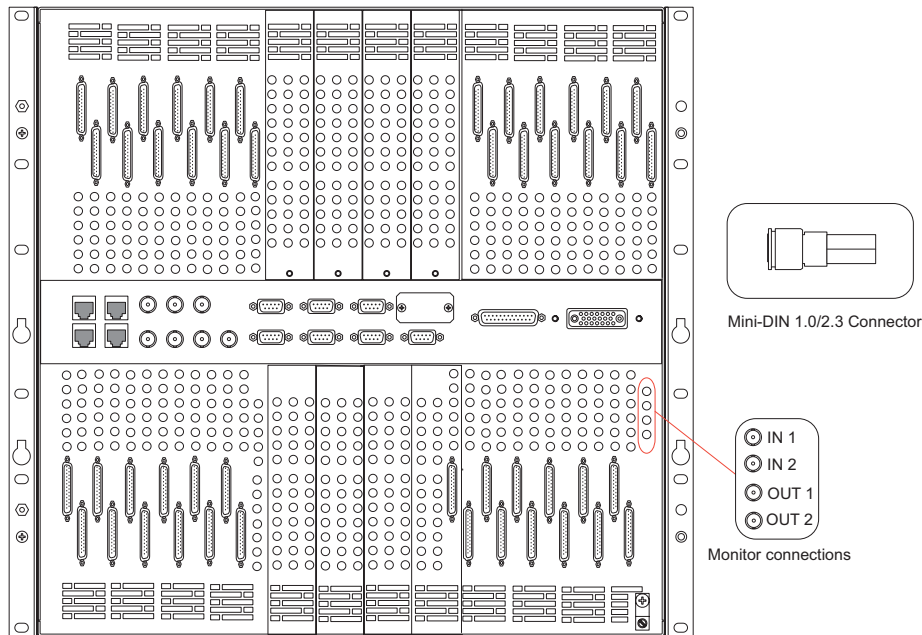

Figure 3-19. Monitor Connections and DIN 1.0/2.3 Connectors (Rear View) on the NV8288-Plus
- 1 Locate the monitor connections on the rear of the router, as shown in Figure 3-19.